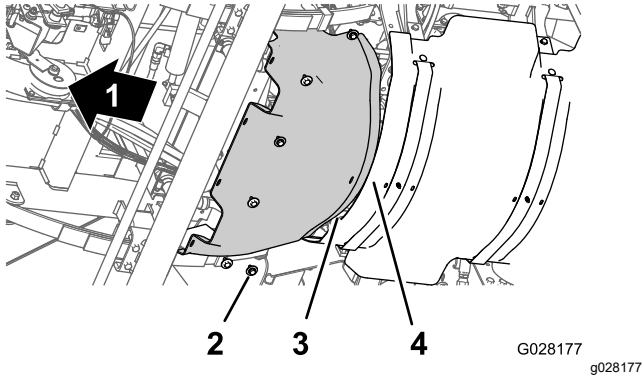

Figure 62
1. Align the rear flange of the forward heat shield over the forward flange of the rear heat shield (Figure 62).
2. Align the holes in the forward heat shield with the threaded holes in the chassis (Figure 62).
3. Assemble the forward heat shield to the machine with the 6 hex-head bolts and 6 washers (Figure 62) that you removed in step 3 of Removing the Forward Heat Shield (page 51).